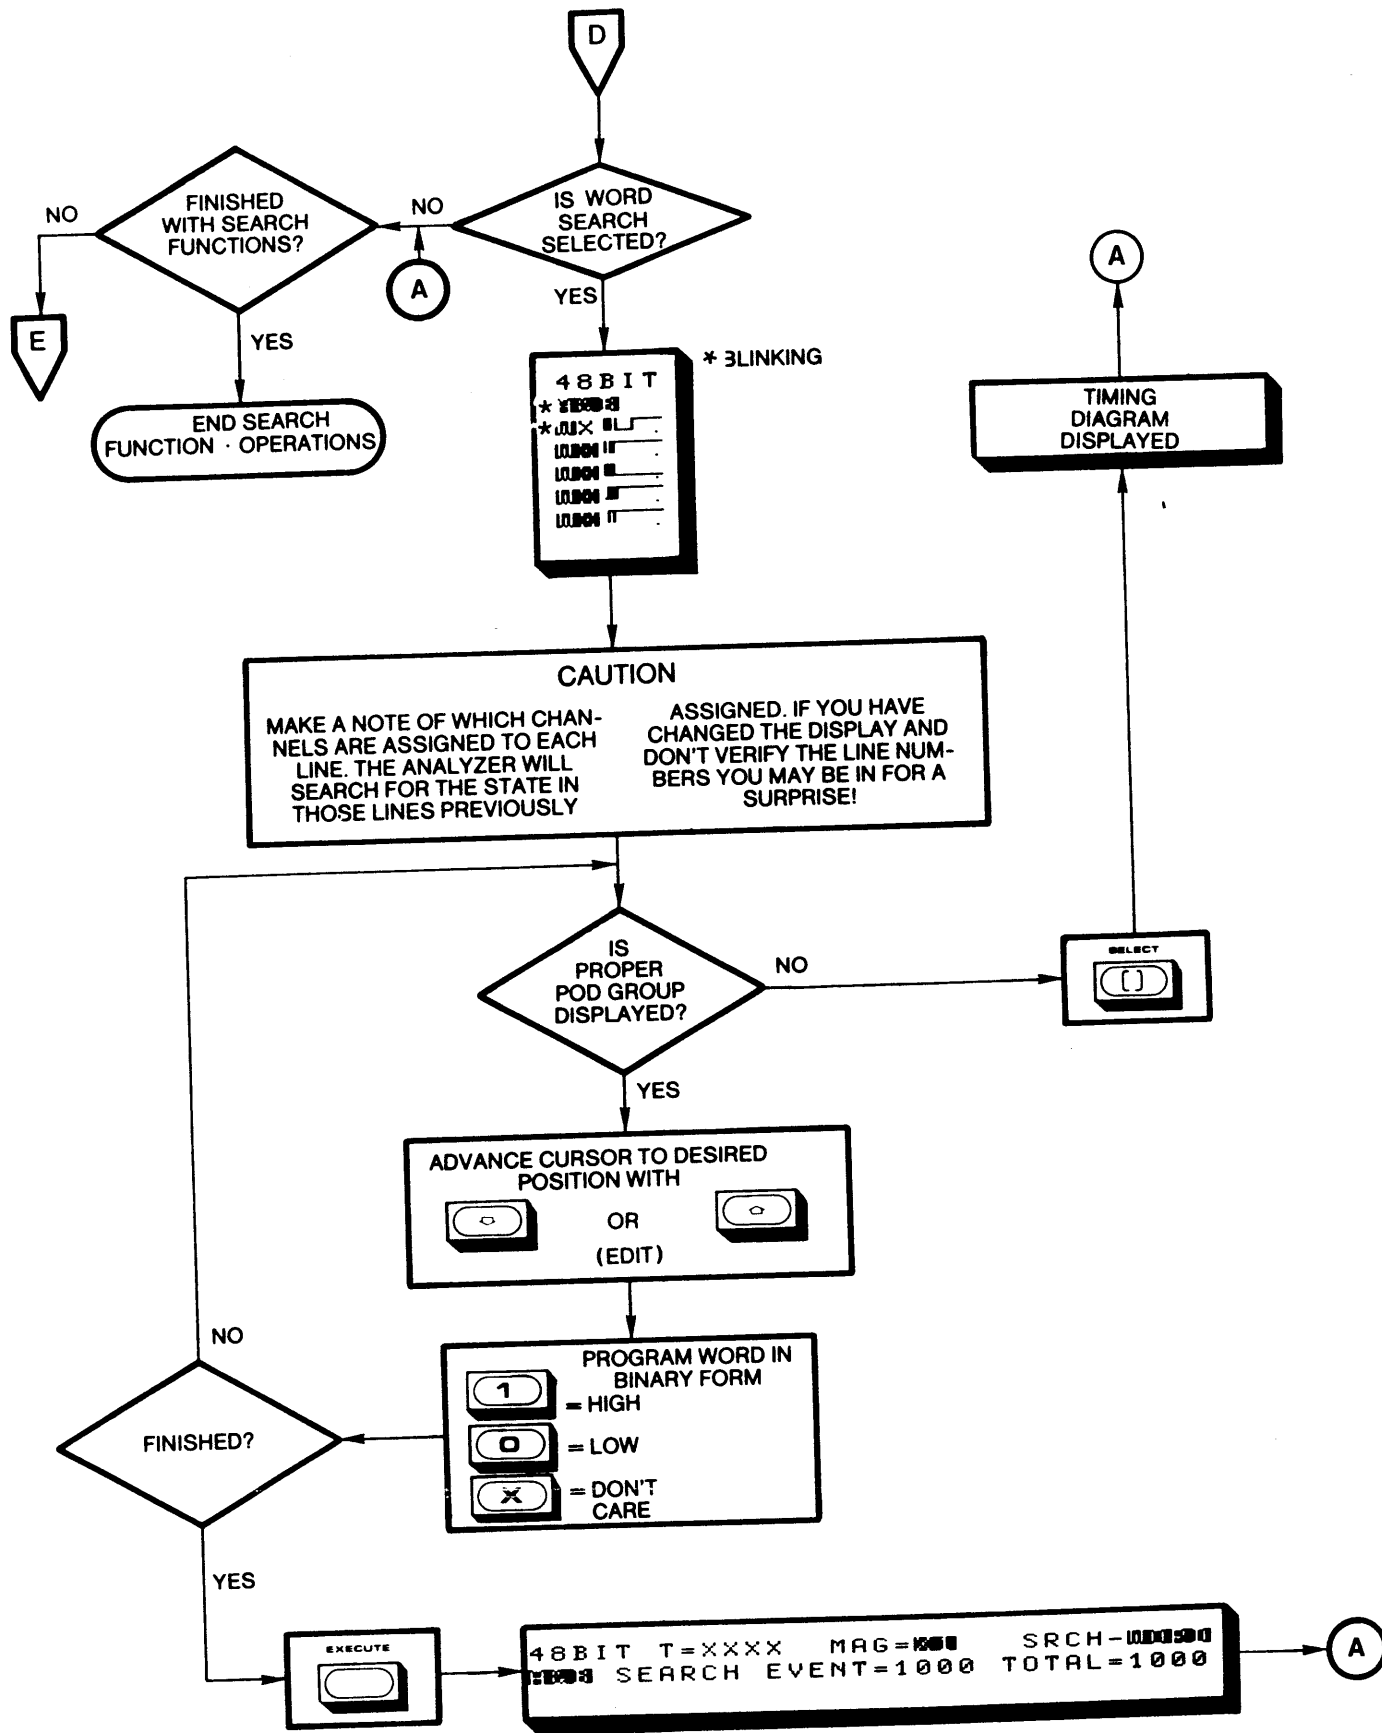

FIGURE 5-34D. TIMING DIAGRAM SEARCH
**5.5.3.4 Word.** The Word search function allows the user to input a particular word desired for search directly into the TIMING DIAGRAM display. The word is entered in Binary form for all channels desired. When this mode is executed, the analyzer will search for the word and display the first occurrence of it in memory. See Figure 5-34D for details on operating procedures to program the Word search.